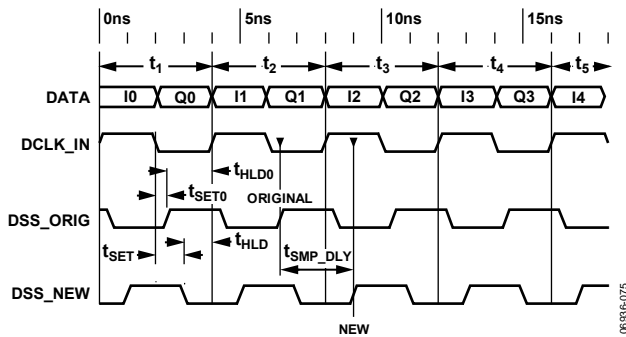

Figure 60. Digital Data Timing Calibration
8. If SEEK = 0, then your timing resembles that shown in Figure 60. Program the value of SMP to be